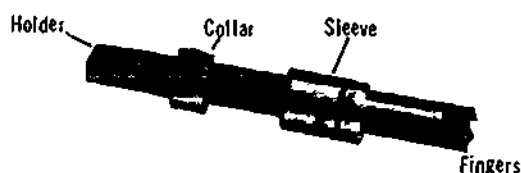

Figure 2-71. Tap Extractor
**Removing Broken Taps** Special tools assist in removing taps, studs, bolts, screws or pipes that have broken off at or below the surface of a piece of work. The cause of a broken tap is generally a chip caught between the threading teeth and the side of the hole. If this chip can be loosened so it will drop in a flute, the broken part of the tap will come out easily. Broken taps may be removed using tap extractors (Figure 2-71) made of high quality steel designed to withstand shearing strain. They are supplied in sets that conform to standard tap sizes ranging from 1/8" to 1 1/2". Some extractors can be used on two or three sizes of taps.